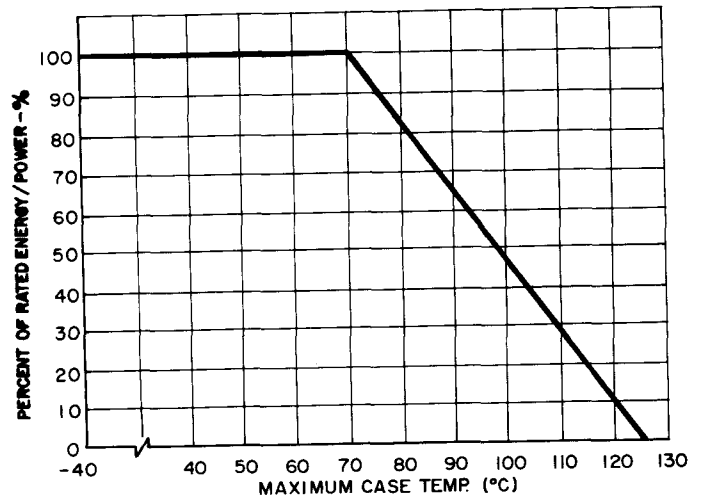

FIGURE 12
3. See Figure 12.
When applying the varistor in a manner which requires high power dissipation capability, the possibility of necessary heat sinking should be taken into consideration. Figure 12 allows one to determine the maximum power dissipation for a given case temperature. To determine if a varistor has been properly heat sunk, a measurement of strap temperature, T_C , (see outline drawing) should be made under required worst case power and thermal conditions.